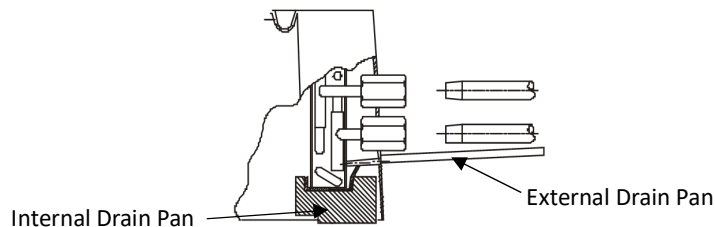

Figure B.8.3
3. Tighten the two screws while making sure the external drain pan is installed flush against the fixing plate. (Figure B.8.3)